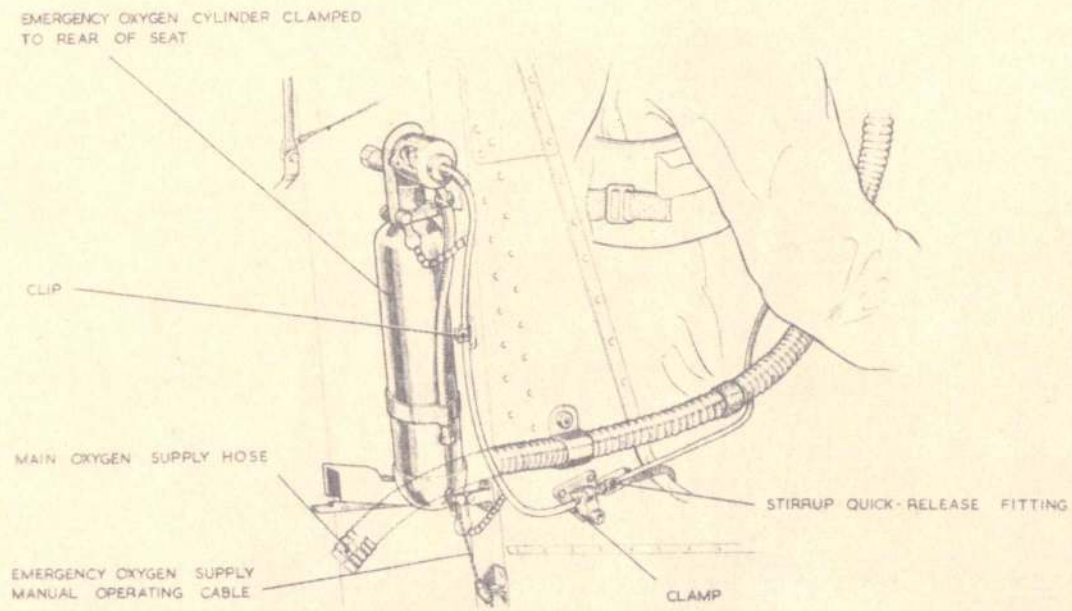
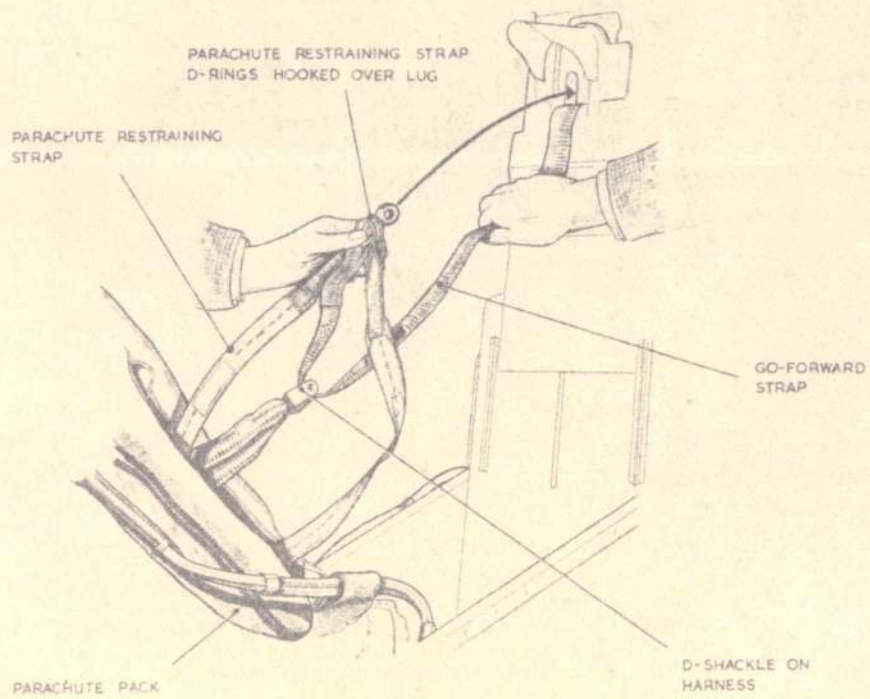

Fig. 3. Arrangement of oxygen supply
Fig. 4. Insertion of top harness lock
- (2) Ensure that the emergency oxygen supply manual control is pushed fully down; connect the cylinder operating cable to the actuating arm on the rear of the seat pan (*fig. 3*).
- (3) Ensure that the manual separation lever is in the operated (upward) position. Place the parachute pack on its support bracket on the seat structure and ensure that the harness straps are not twisted.
- (4) Operate the harness 'go-forward' lever and pull out the centre ('go-forward') strap. Pass the strap upwards through the D-shackle on the harness shoulder straps, taking care that the fitting is in its natural position and that the straps are not twisted. Pass the O-rings of the pack restraint straps over the lug of the centre strap, lift the parachute pack forward and fit the lug into the attachment point on the seat (*fig. 4*). Place the manual separation lever in the locked (down) position and ensure that the lug is secure by attempting to pull the harness away from the anchorage.
- (5) Replace the parachute pack on its support bracket.
- (6) Position the headrest cushion on the parachute pack, ensuring that it fits correctly under the drogue container.
- (7) Pass the left-hand pack restraint strap over the parachute withdrawal line, through the buckle on the short strap at the left-hand side of the drogue container and then forward through the buckle on the left-hand side of the headrest cushion.